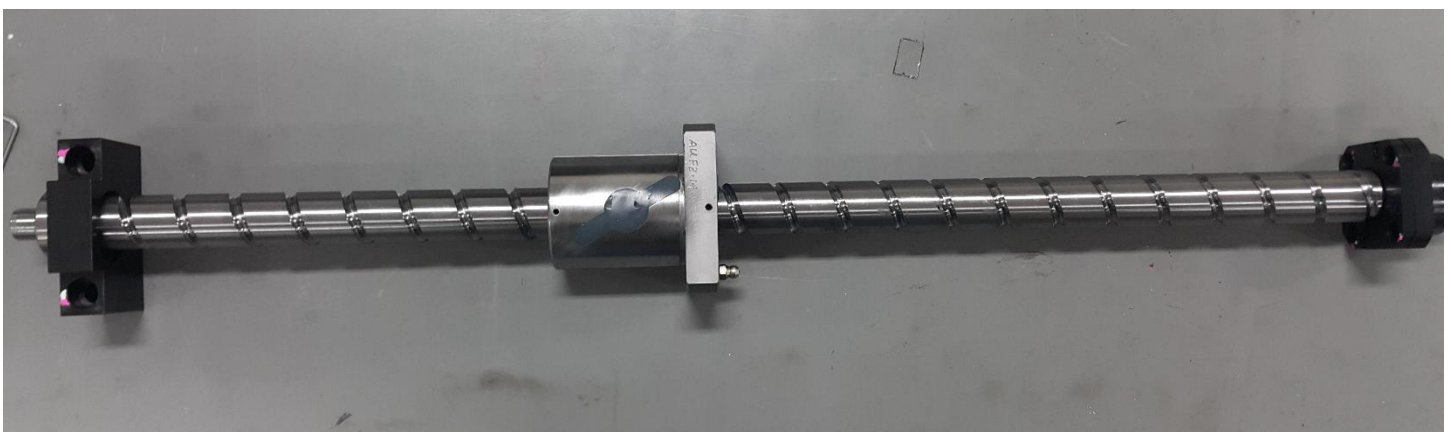

Figure 46 X-Axis Ball Screw
36. May refer to below Figure 46 for final assembly of bearing blocks at X axis ball screw.